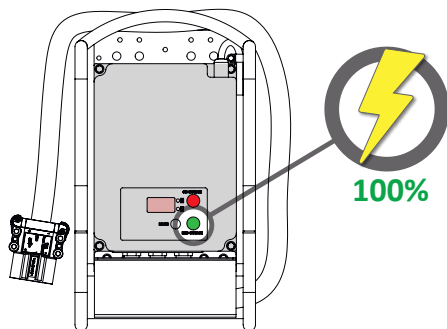

Fig. 17F - Wait until fully charged
5. Once the battery reaches 100%, the red light on the charger will be replaced by a green light (Fig. 17F).